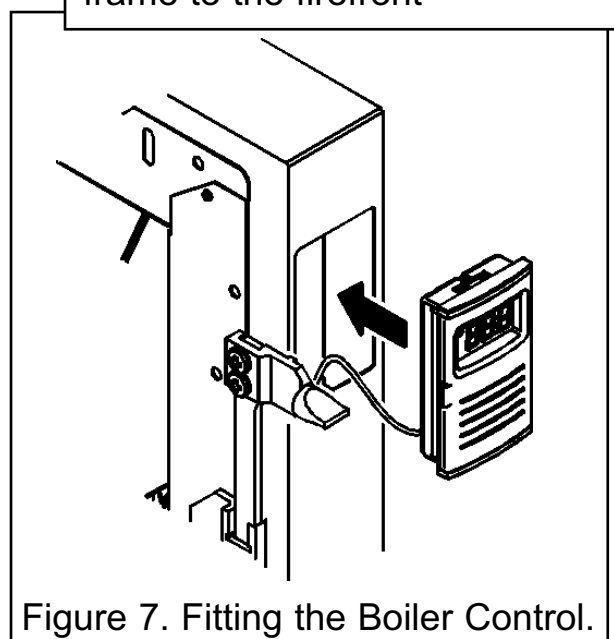

Figure 7. Fitting the Boiler Control.
3. Insert the Boiler Control lead through the opening in the spacer frame, then ensuring that the display is at the top, gently push the Boiler Control into place. See figure 7. Place the firefront in front of the boiler, connect the Boiler Control lead to the lead on the boiler and check the boiler operation.